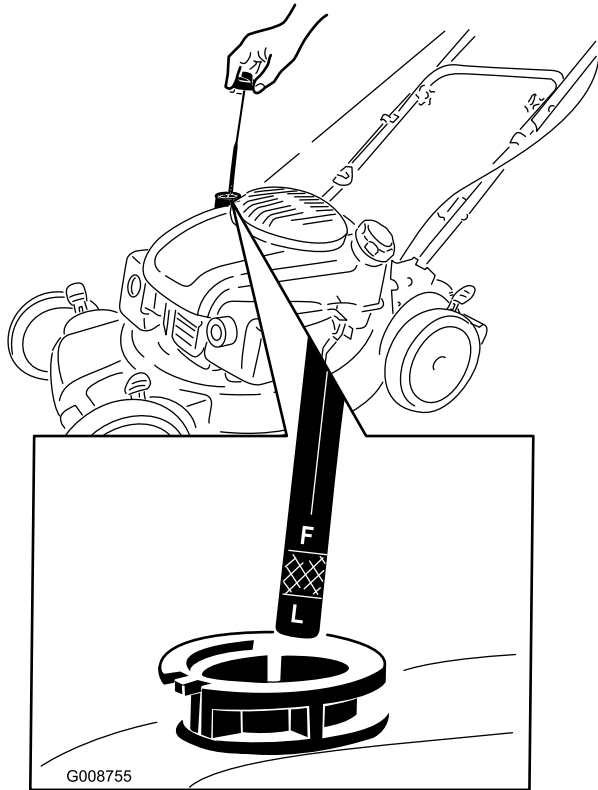

Figure 9
1. Remove the dipstick, wipe it clean, and insert it into the oil filler neck, but **do not** screw it in (Figure 9).
2. Remove the dipstick and check the oil level (Figure 9). If the oil level is below the Add mark on the dipstick, **slowly** pour oil into the oil fill tube to raise the oil level to the Full mark on the dipstick. **Do not overfill.** (Max. fill: 22 oz. (0.65 l), type: 10W-30 or SAE 30 detergent oil with an API service classification of SJ or higher.)